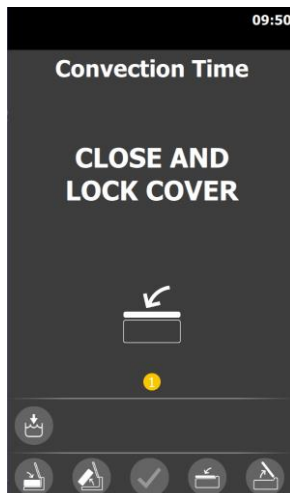

Figure 30
- Prior to a Convection Cooking stage, the UI shall display a pop-up screen with the instruction to “CLOSE AND LOCK COVER” along with an image of an open LID over Kettle and arrow pointing down (see **Figures 30 – 31**).